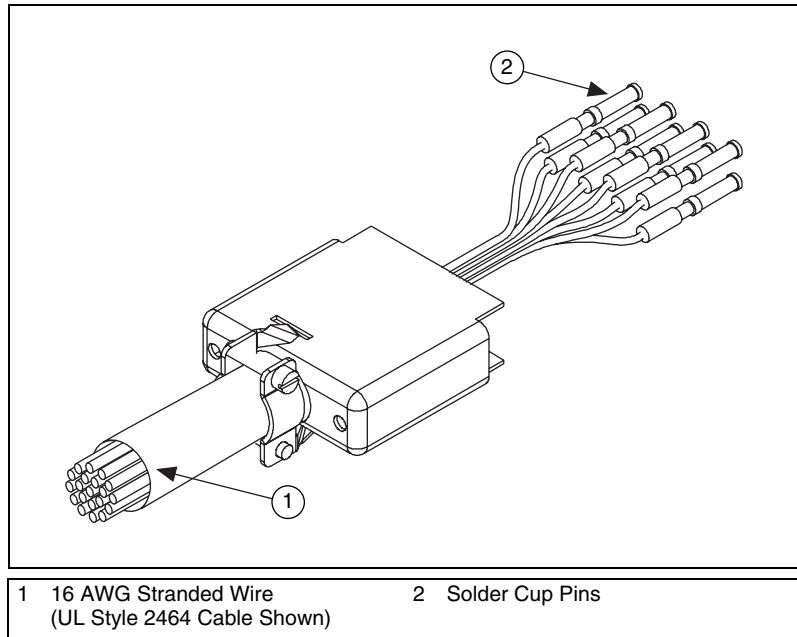

Figure 2. Backshell with Threaded Wires
- Route all the conductors through the backshell as illustrated in Figure 2.